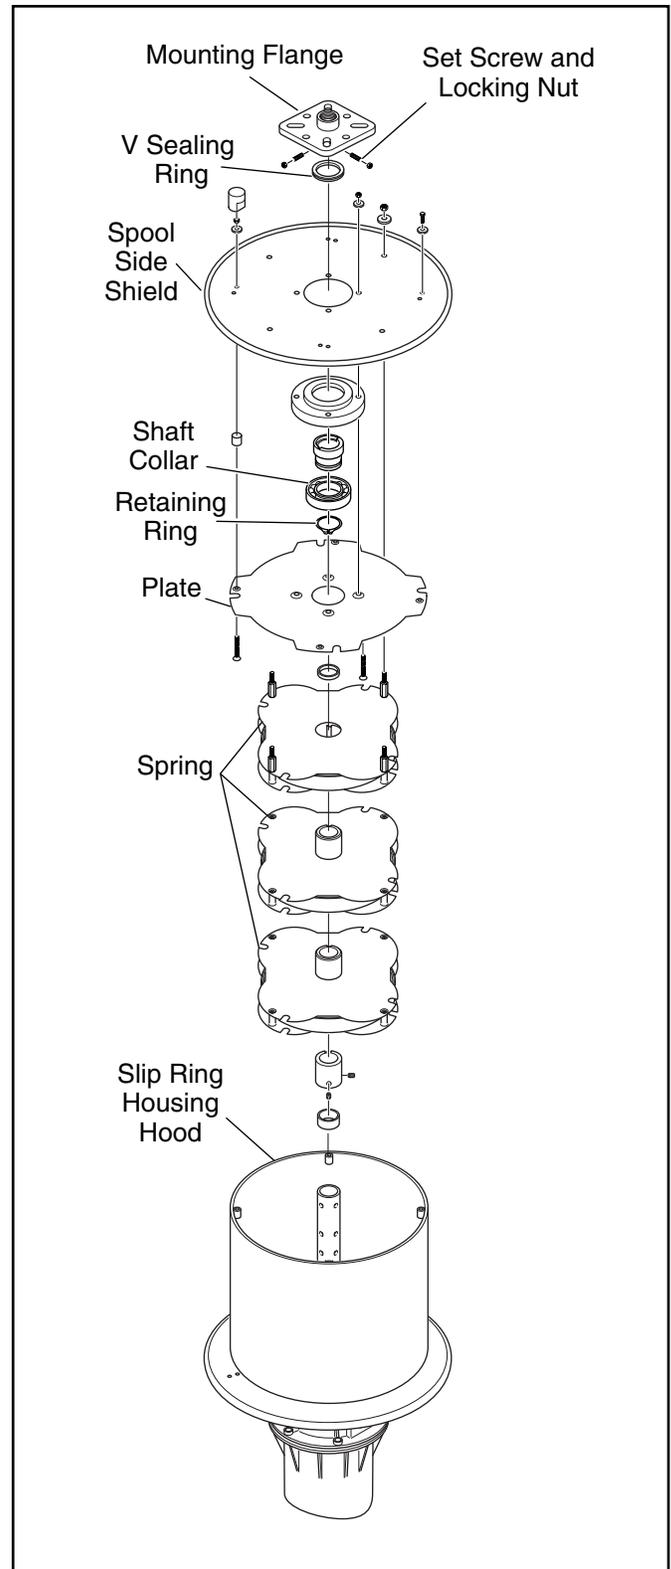

Figure 5.14 Spring Replacement
See Figure 5.14. There are three internal cable reel springs. If one spring breaks, the working cable will rewind slowly with reduced tension or may not rewind fully. In case of a single broken spring, it is important to replace all springs. The unbroken spring is likely to be operating at reduced efficiency and could also be close to failure. To prepare the reel for new springs:
8. Loosen the screws holding the mounting flange and the spool side shield in place. After removing the spool shield, the other components can be pulled off the shaft. The spring removal process can be observed from Figure 5.14.
1. Follow the sequence shown in Figure 5.14. Press down on the shaft to secure components snugly.